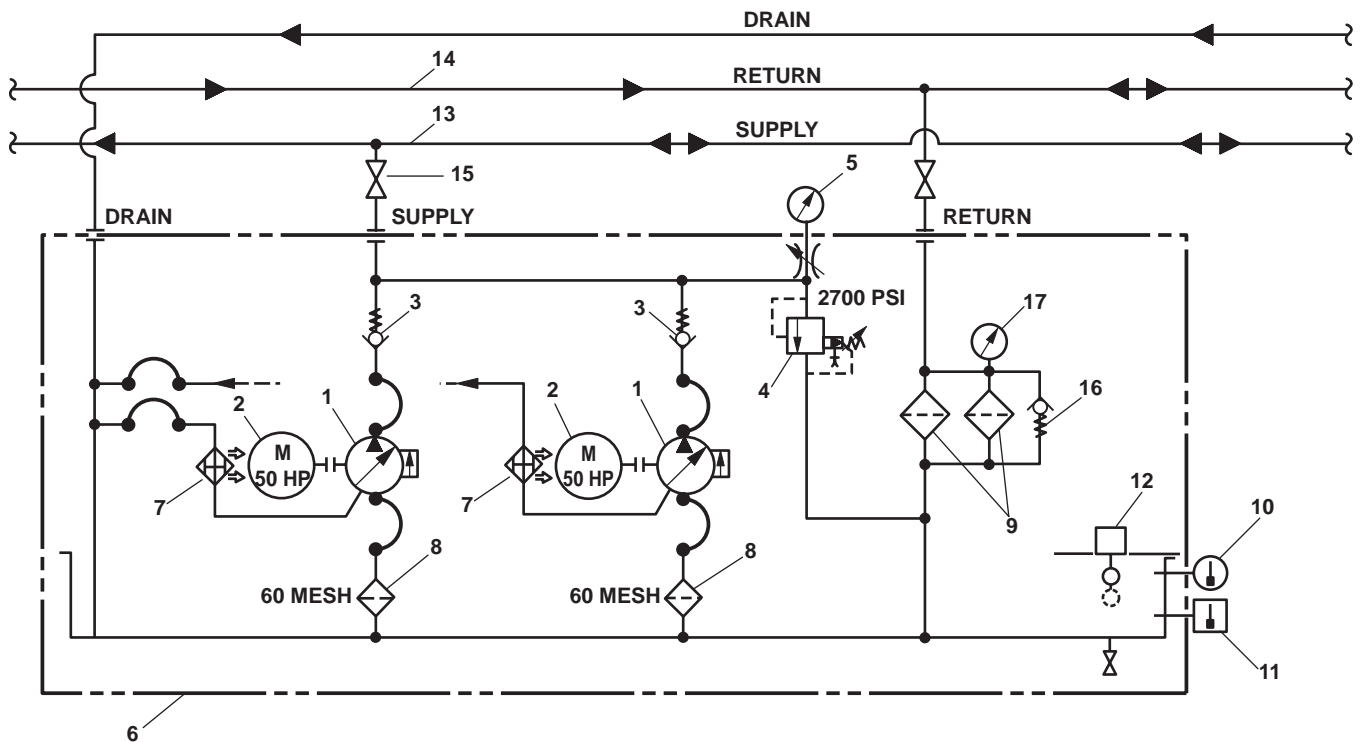

Figure 1. Central Hydraulic Power Unit Hydraulic Schematic
Two hydraulic pumps (figure 1, item 1) provide hydraulic pressure and flow to the central hydraulic system. Each pump is rated at 32 gal/min (121 L/min) at 2550 PSI (176 bar). Each pump is driven by its own 50 horsepower (37.3 kW) electric motor (figure 1, item 2). During normal operation, only one pump is operated. Under special circumstances, when hydraulic flow demands are high, both pumps may be operated. However, the hydraulic fluid temperature must be closely monitored during two-pump operation to prevent overheating of the system. Spring loaded check valves (figure 1, item 3) are provided at the outlet of each pump to prevent backflow through the idle pump when only one pump is in use. The spring loaded check valves are permanently set to OPEN at 7 PSI (0.5 bar) to provide minimal restriction to hydraulic flow.
A single system relief valve (figure 1, item 4) provides protection against overpressurization of the central hydraulic system. If the system pressure exceeds 2700 PSI (186 bar), the relief valve opens and vents the excess pressure back to the reservoir.
A system pressure gauge (figure 1, item 5) provides a direct indication of the system's operating pressure. The gauge reads from 0 to 5000 PSI (0 to 345 bar).
A 150 gallon (568 liter) reservoir (figure 1, item 6) stores the hydraulic fluid for the central hydraulic system. The reservoir also provides a mounting location for most of the central HPU's components. Unlike the towing machine hydraulic system, the central hydraulic system has no hydraulic fluid cooler. Instead, the central hydraulic system's fluid is cooled by dissipating its heat through the walls of the reservoir to the air in the engine room. However, hydraulic fluid coolers (figure 1, item 7) are provided for the hydraulic pump drain fluid. These hydraulic fluid to air coolers are mounted inboard of the electric motors.
Suction strainers (figure 1, item 8) are provided at the inlet for each hydraulic pump (figure 1, item 1) to remove large particulate matter from the hydraulic fluid before it enters the hydraulic pump. Return filters (figure 1, item 9) are also provided for the system. The return filters are rated at 10 microns and remove small particulate matter from the hydraulic fluid as it is returned to the reservoir.
A 0-250 °F (-17 to 121 °C) temperature gauge (figure 1, item 10) is provided to monitor hydraulic fluid temperature in the reservoir. The temperature gauge is supplemented by a 180 °F (82 °C) high temperature cutoff switch (figure 1, item 11). When the hydraulic fluid temperature exceeds 180 °F (82 °C), the cutoff switch illuminates the HIGH OIL TEMP lamp, sounds an alarm, and secures power to the hydraulic pumps' electric motors (figure 1, item 2). The central hydraulic system is also protected by a low level switch (figure 1, item 12). This switch indicates either FULL or LOW for the reservoir fluid level. When the hydraulic fluid level reaches the LOW mark (98 gallons (371 liters)), the switch illuminates the LOW OIL LEVEL lamp, sounds an alarm, and secures the power to the hydraulic pump's electric motors.
When the operator powers up one or both hydraulic pumps, power is sent to the electric motor(s) (figure 1, item 2) for the selected hydraulic pump(s) (figure 1, item 1). Once the hydraulic pump is turning, it draws hydraulic fluid through the suction strainer (figure 1, item 7) and into the hydraulic pump. The hydraulic pump pressurizes the hydraulic fluid in response to the amount of restriction on the system. If the restriction is low (no load applied), system pressure is very low. If the restriction is high (load applied), the system pressure will vary in response to the load. The pressurized hydraulic fluid exits the hydraulic pump and flows through the supply piping (figure 1, item 13) to the downstream components (capstan, anchor windlass, deck crane, and tow pins), where the hydraulic pressure and flow are transformed into physical work. Hydraulic fluid exiting the downstream components returns to the reservoir (figure 1, item 6) through the return piping (figure 1, item 14) and the return filters (figure 1, item 9).
If the restriction is extraordinarily high due to an overloaded downstream component or a closed cutoff valve (figure 1, item 15), the system relief valve opens at 2700 PSI (186 bar) to vent hydraulic fluid back to the reservoir (figure 1, item 6). This prevents catastrophic damage to the hydraulic pump, piping, and other hydraulic components.
The return filters (figure 1, item 9) are provided with a bypass valve (figure 1, item 16) and a restriction gauge (figure 1, item 17). If the filter restriction rises above 25 PSI (1.7 bar), the bypass valve opens, permitting hydraulic fluid to bypass the filters and to return to the reservoir (figure 1, item 6). Because permitting unfiltered hydraulic fluid to return to the reservoir opens the door to eventual system failure, the restriction gauge is provided to enable timely return filter changes. Performing regular filter changes helps to ensure that the central hydraulic system and its components enjoy a long service life.